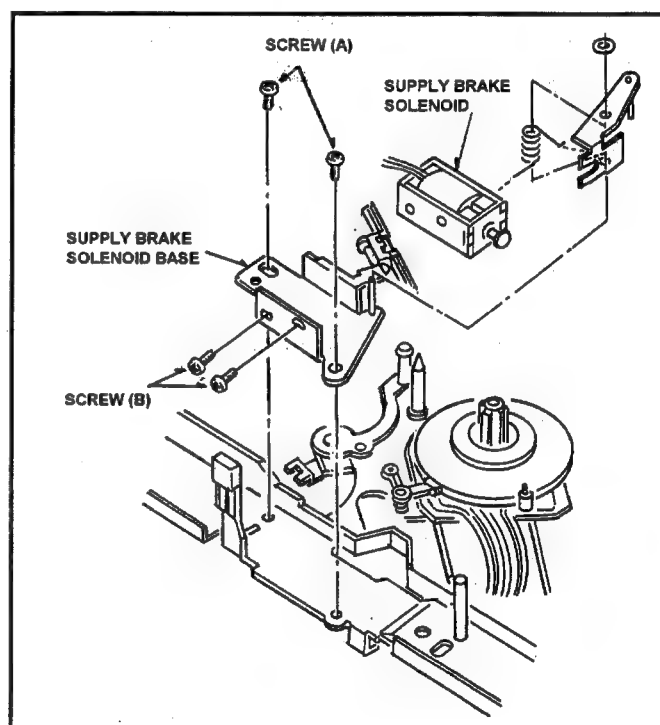

Fig. 6-10-1 Removal of Supply Brake Solenoid
5. Unscrew the 2 screws (A) and remove the Supply Brake Solenoid Base Unit as shown in Figure 6-10-1.
6. Unscrew the 2 screws (B) and remove the supply Brake Solenoid from Supply Brake Solenoid Base Unit as shown in Figure 6-10-1.